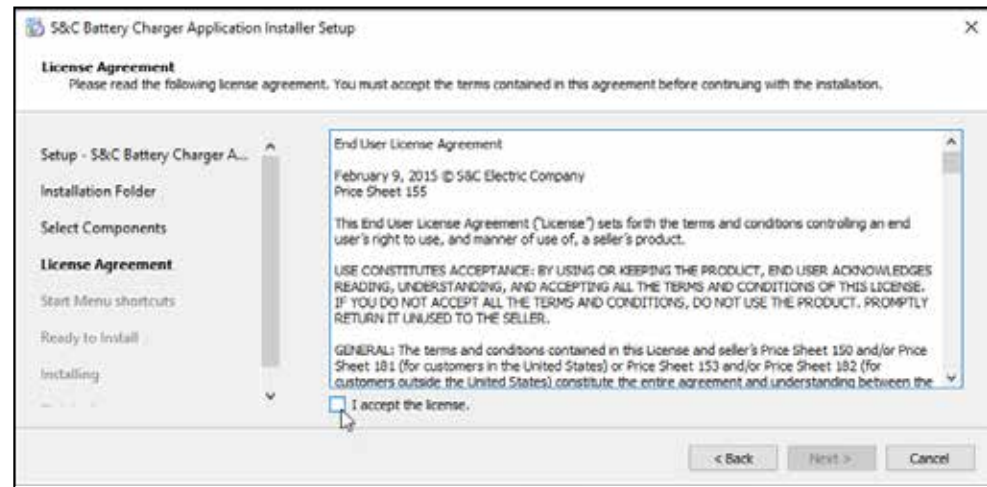

Figure 6. The end-user license agreement.
STEP 5. Read through the End User License Agreement and accept the license by clicking on the “I accept the license” checkbox. See Figure 6. Then, click on the **Next** button.